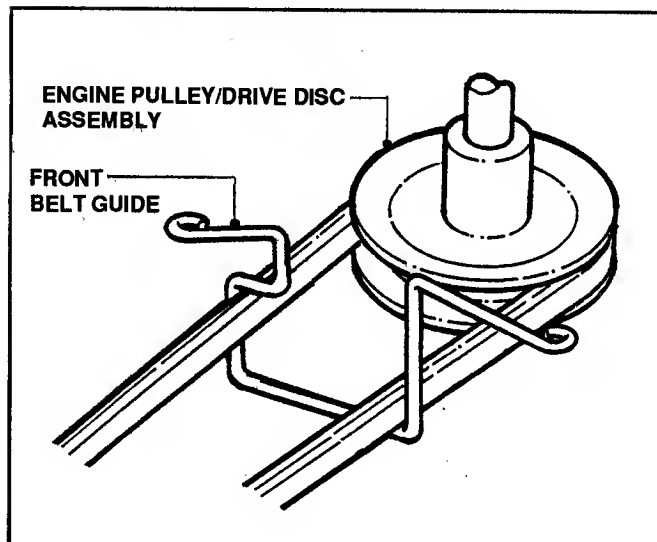

FIGURE 4.23
3. Move transmission shift lever to the neutral (N) position.
7. Move transmission shift lever to the #5 position and place belt over drive disc and into drive pulley belt groove. See Figure 4.23.